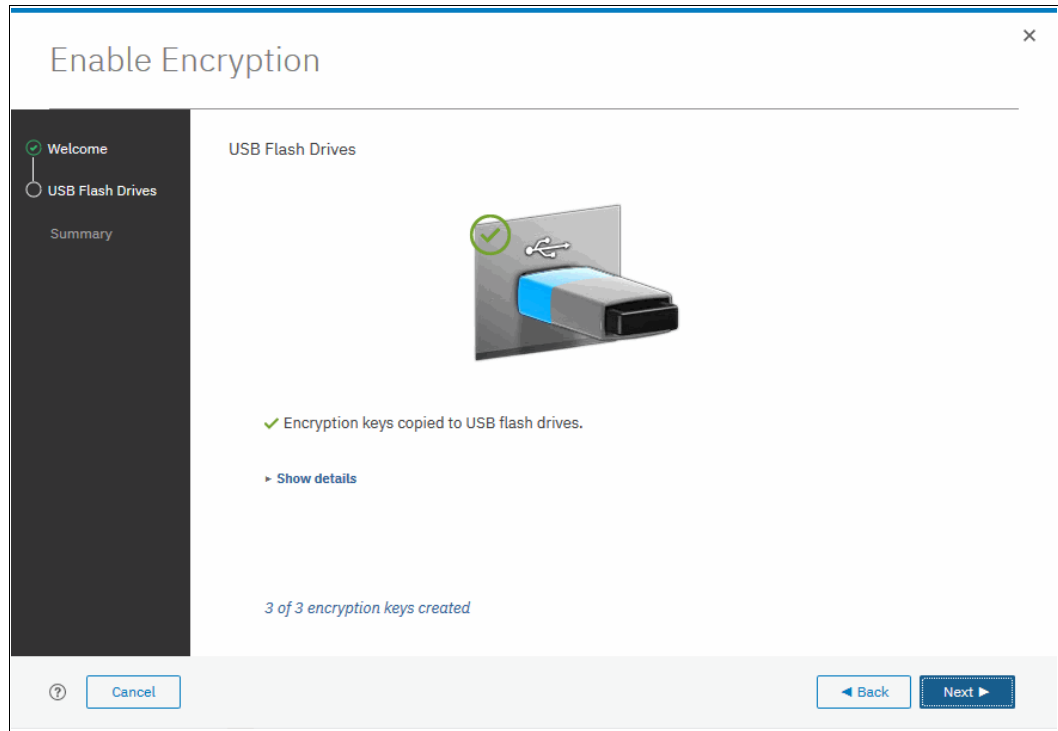

Figure 13-26 Writing the master access key to USB flash drives
Ensure that each copy of the encryption key is valid before you write any user data to the system. The system validates any key material on a USB flash drive when it is inserted into the canister. If the key material is not valid, the system logs an error. If the USB flash drive is unusable or fails, the system does not display it as output. Figure 13-26 on page 748 shows an example where the system detected and validated three USB flash drives.
4. After the encryption key is copied to the first two USB flash drives, the management GUI prompts you to remove the two flash drives. After you remove the flash drives, insert the last required flash drive into the system. Figure 13-26 shows the wizard after three encryption keys were created and copied to USB flash drives.